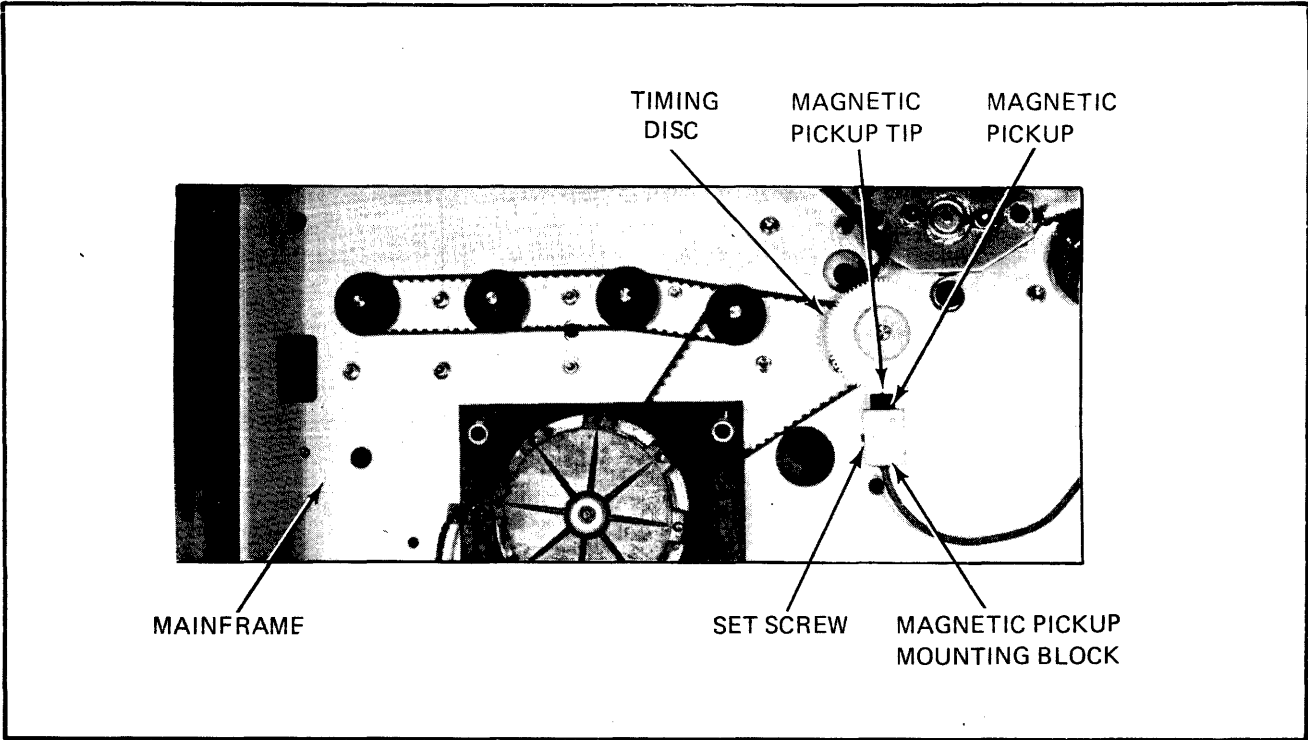

Figure 9-11. Magnetic Pickup Replacement
- b. Using a 1/16 Allen wrench, loosen set screw in magnetic pickup mounting block, Figure 9-11.
- j. Insert the pickup unit into mounting block, Figure 9-11.